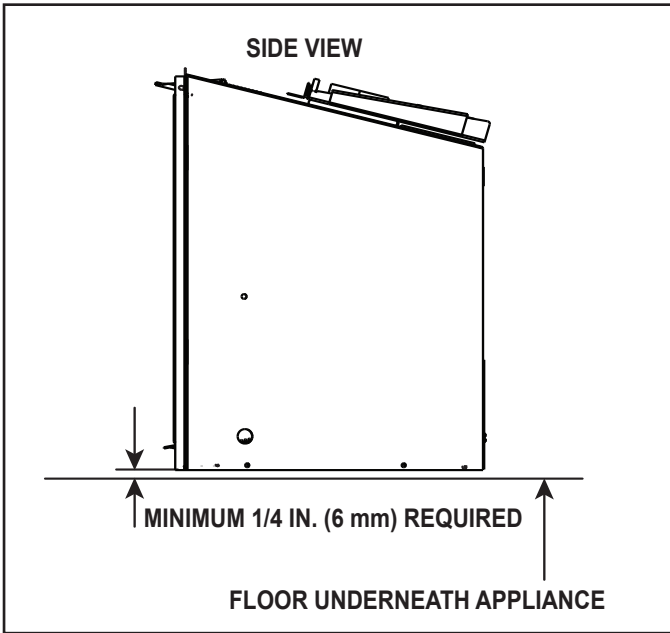

Figure 3.17 Solid Fuel Floor Clearance
- A minimum 1/4 in. (6 mm) gap from the bottom of the appliance to any floor surface is **REQUIRED**. See side view in Figure 3.17.
- Combustible flooring underneath the appliance is acceptable with a 1/4 inch (6 mm) gap. See Figure 3.17.